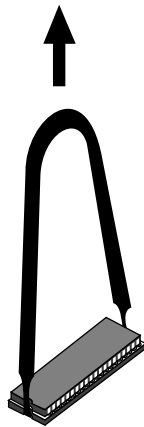

Figure 13 Removing the PROM chip
- You received a chip removal tool - it looks like a pair of huge tweezers. Insert the chip removal tool between the PROM chip and the socket on the board, as shown in Figure 13. Work the chip away from the socket in a rocking motion, pulling up on one side of the chip and then on the other side. It may be difficult to loosen it.